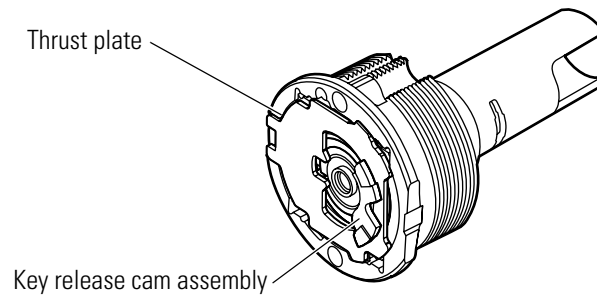

Figure 3.17 Removing the thrust plate
3. Raise the key release cam assembly or non-keyed sleeve assembly slightly, and slide the thrust plate out from under it. See Figure 3.17.